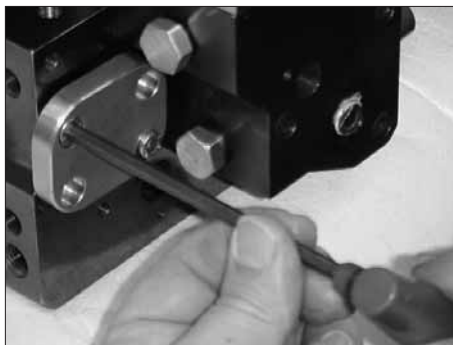

Figure 7-80 Installing the pump shaft end cap
10. See Figure 7-80. Using an M5 hex wrench, attach the pump shaft end cap and tighten the screws.